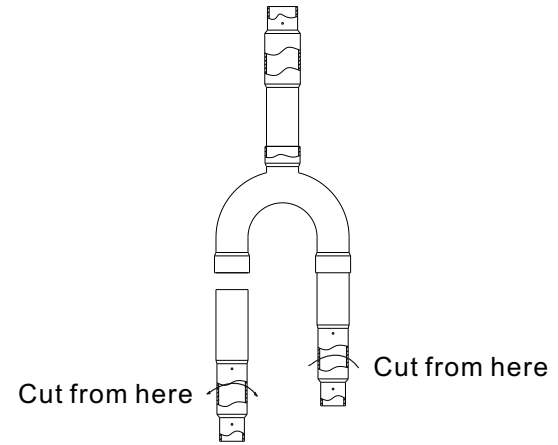

Figure 2
Assume the current unit outlet pipe is φ 31.8 and the main pipe is φ 38.1, cut the independent pipe Q1 manifold assembly according to Figure 2.
- The independent pipe Q1 and Q3 shall be welded with U-shaped tee Q4 according to Figure 2. And discard the independent pipe Q2 since the piping diameter can be directly matched with the U-shaped tee at the unwelded end.
- a. After the selection of RVF-RDIXHR1 type, the obtained actual object as shown in Figure 1, supposing the tubing we presently use is $\phi 15.88$, the welded pipe of the manifold assembly shall be cut according to the Figure 2.
- b. Then the independent tube shall be cut according to the Figure 2.
- A.After the model RVF-RDOUX2HR is selected, the obtained actual material is shown in Figure 1. Assume the current unit outlet pipe is φ31.8 and the main pipe is φ38.1. Cut the independent pipe Q1 of the manifold assembly according to Figure 2.
- B.The independent pipe Q1 and Q4 shall be welded with U-shaped tee Q3 according to Figure 2.And discard the independent pipe Q2 and Q5.